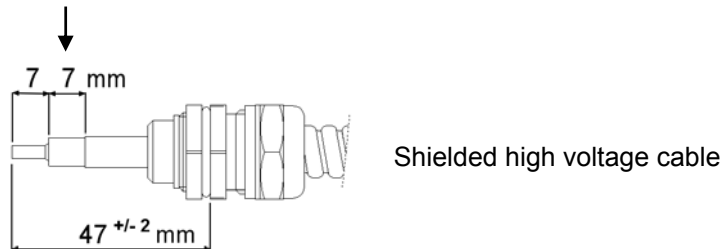
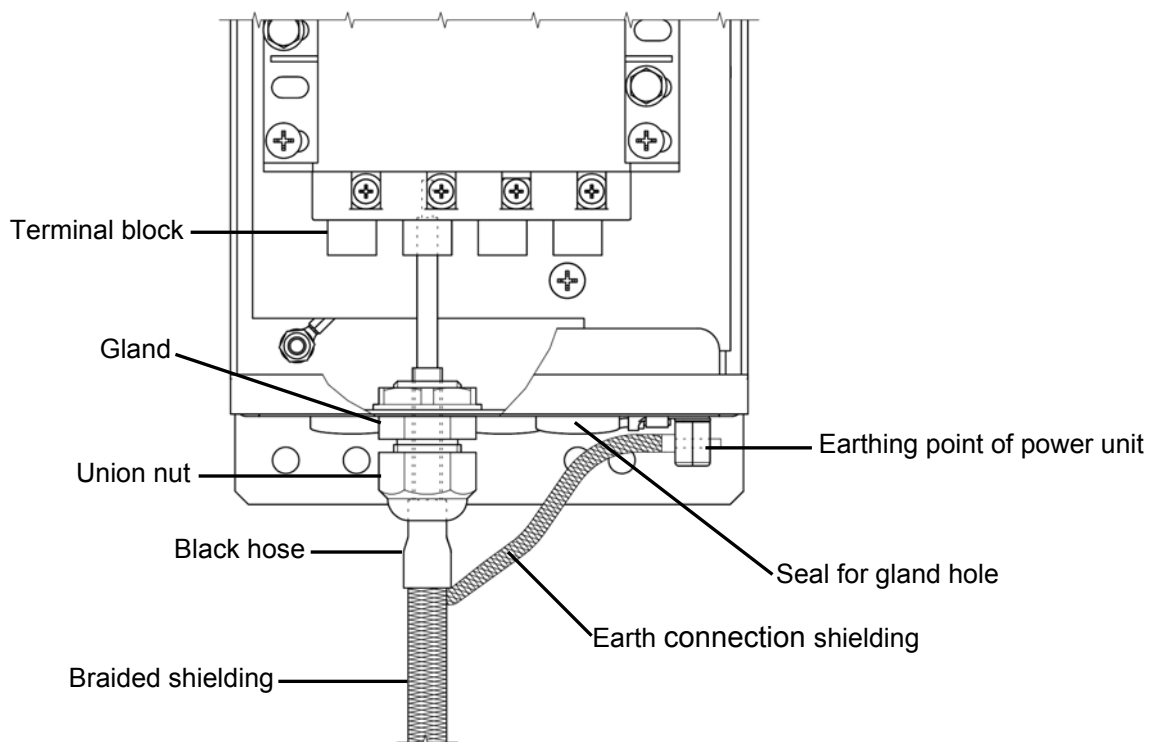

Figure 4A High-voltage cable finishing
Figure 4B Braided shielding finishing
Ionisation equipment high voltage cables may be shortened. However, the metal shielding must not be shortened by the customer. When shortening the (blue) high voltage cable used in anti-static bars type MEB, MEJ, EP-Sh-N, P-Sh-N(2) and Max/ON, the cable end must be stripped as shown in figure 4A. High-voltage cable with braided shielding must be finished as shown in figure 4B.
See also figure 4B.